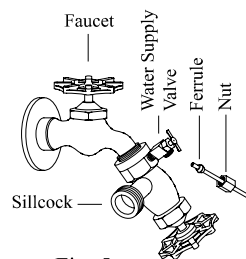

Fig. 5
- **Connect water supply line.** Install a sillcock and water valve on faucet as shown by figure 5. Place the nut and ferrule on the tubing and tighten the nut until water tight.